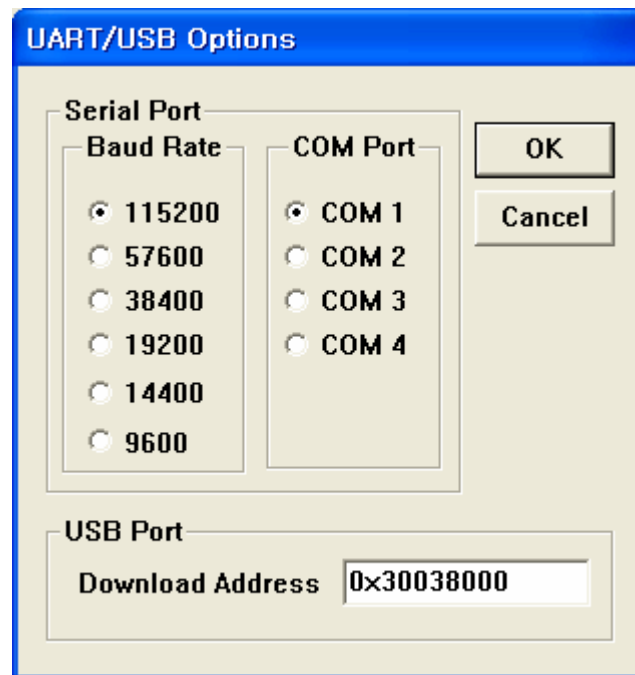

Figure 5-18 UART/USB Options
7. On the **Configuration** menu, click **Options** to set the UART/USB options. The following window appears on your screen. Select Baud Rate and COM Port as shown in figure 5-18, enter the download address as **0x30038000** and then click **OK** button.